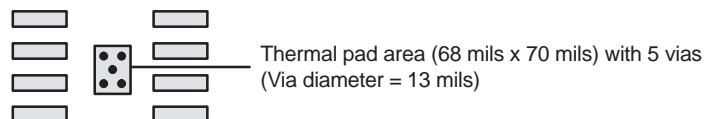

Figure 65. PowerPAD™ PCB Etch and Via Pattern
1. Prepare the PCB with a top-side etch pattern as shown in Figure 65. There must be etch for the leads as well as etch for the thermal pad.